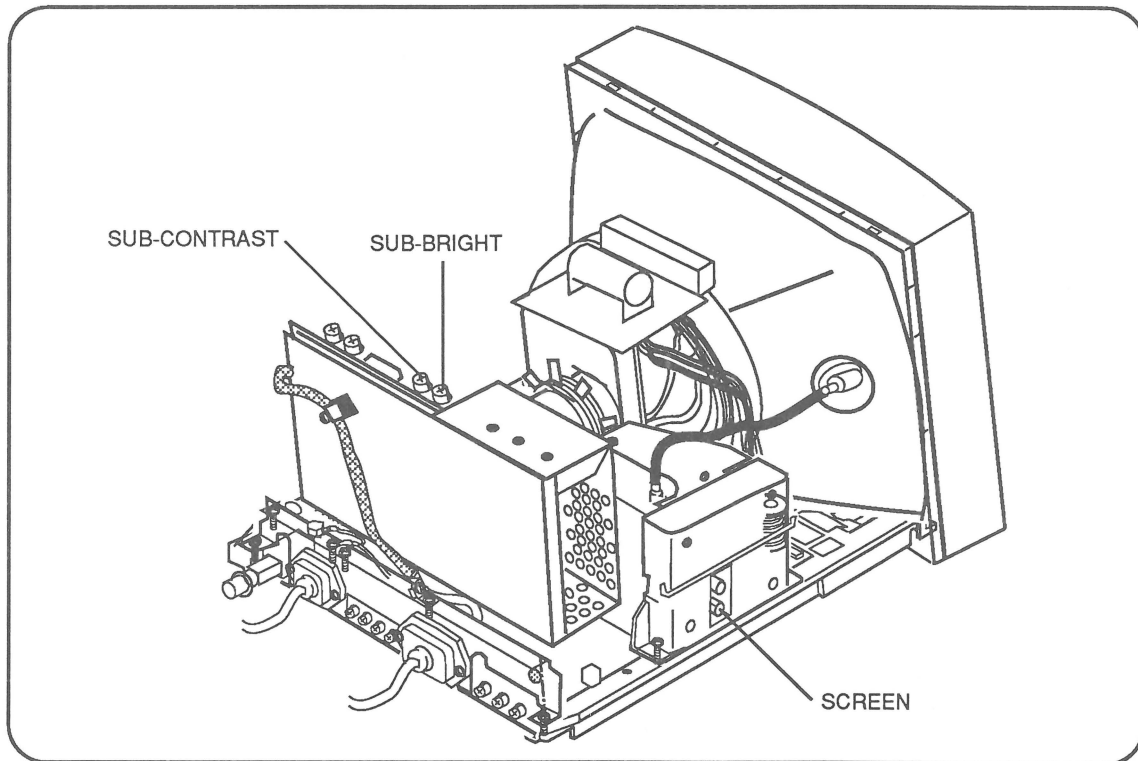

Figure 3-10 SUB-BRIGHT and SCREEN Controls
- .400 V ($\pm$.004 V) for **CRT B**If the reading is off, adjust the SCREEN control on the flyback transformer (see **Figure 3-10**).
9. **Figure 3-10.** Because the monitor has been displaying the Full Black Screen pattern and you need a visible pattern for the remainder of this step, click the mouse or press the Space bar to advance to the next monitor test pattern. Then turn up (turn clockwise) the SUB-BRIGHT (VR202) control until the raster is visible.
11. **Figure 3-10.** Adjust the SUB-BRIGHT control until the first bar is black (as black as the screen border) and the second bar is barely visible.